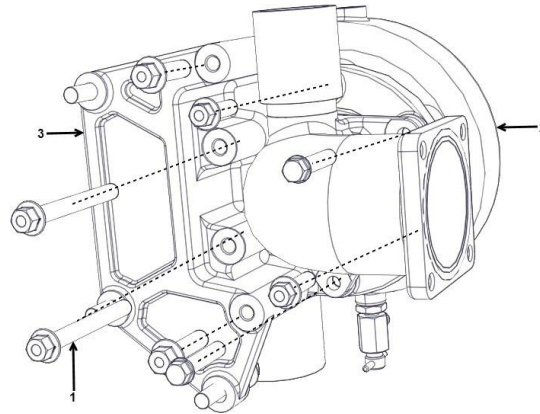

Figure 15. Rear Right-Hand Water Pump Pulley Assembly
2. Remove the eight bolts on the back of the right-hand water pump. (Refer to Figure 15)